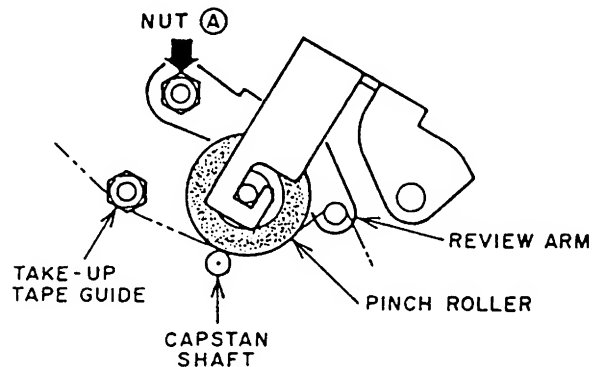
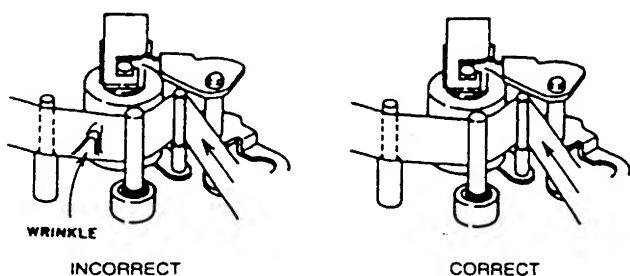

Fig. 4-6
Fig. 4-8
- 2) Turn the REVIEW ARM height ① nut so that the edge of the tape barely touches the lower part of the TAKE-UP TAPE GUIDE without any curl or wrinkle between the TAKE-UP TAPE GUIDE and the CAPSTAN SHAFT as shown in Fig.4-6 to Fig.4-8.
If curl or wrinkle of the tape has occurred, slightly turn the ① nut (Shown in Fig.4-6) until it disappears.